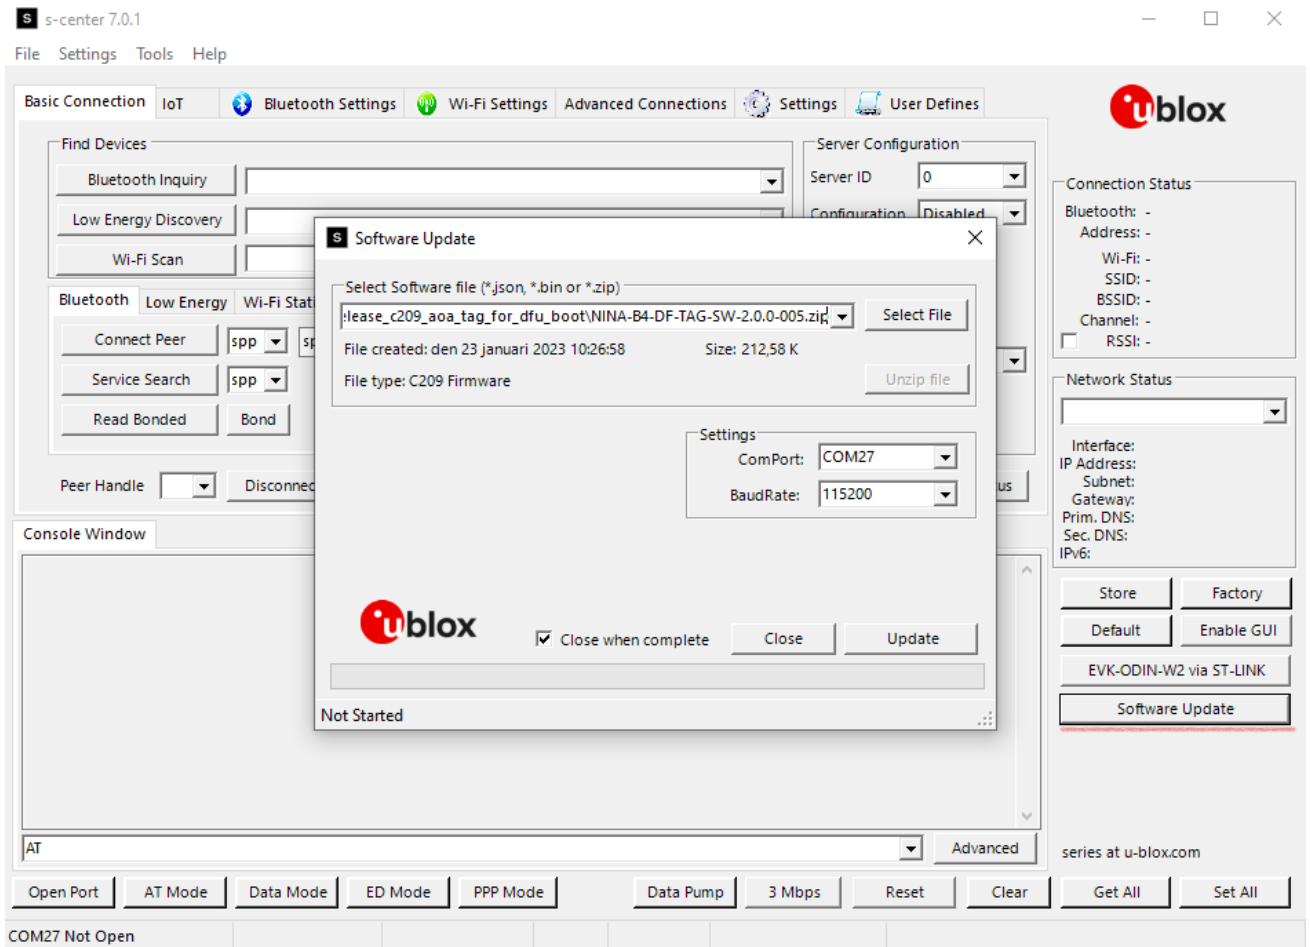

Figure 25: Updating the software on the C209 board using s-center
5. In the “Software Update” dialog, select the `NINA-B4-DF-TAG-SW-<version>.zip` file from the software container, as shown in Figure 25. Make sure the flashing speed is set to 115200, and that you select the zip from a folder with “for_dfu_boot” in the name.